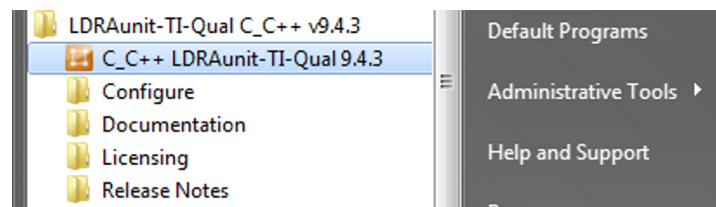
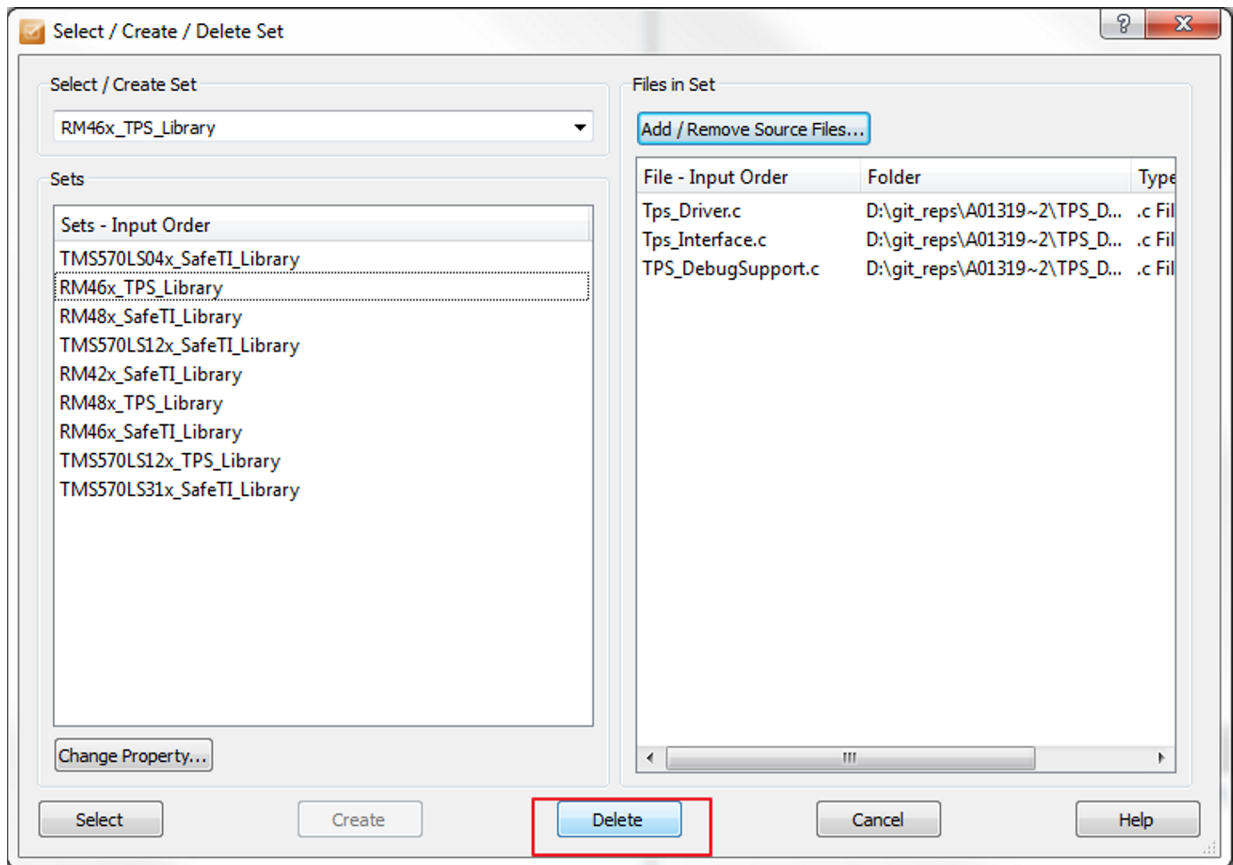

Figure 6. Open LDRAunit
Figure 8. Delete the Set for the Device Under Test (Here RM46x Software Diagnostic Library is Selected Here)
6. In cases where issues occur when building and running test cases, the user may have a corrupt LDRAunit-TI-Qual_C_CPP_9.4.3 work area. To fix the issue, delete the existing sets (an LDRA work item) as shown in Figure 6 through Figure 8, and then start running the test cases again.